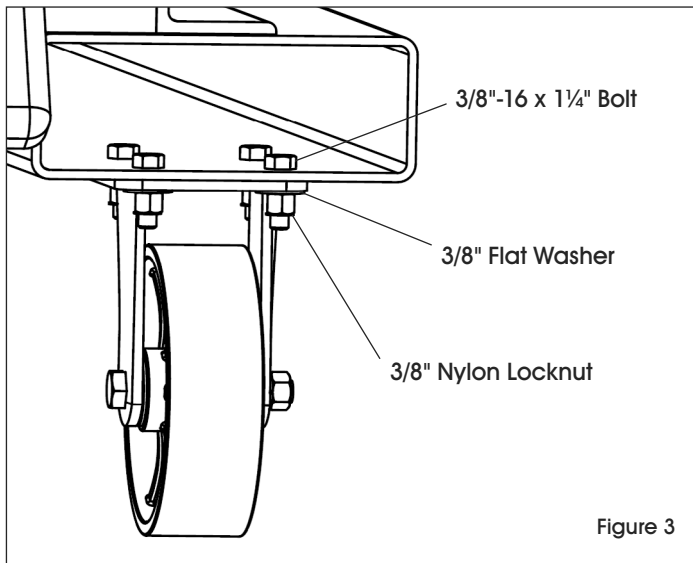

Figure 3
5. Attach casters to exposed end of each fork pocket. (See Figure 3)